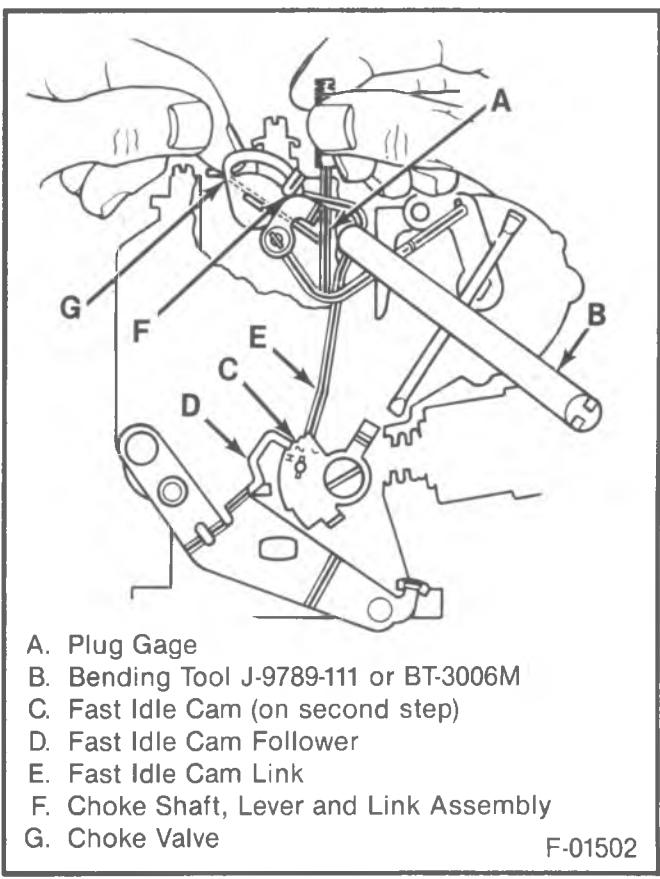

Figure 40 - Choke Link (Fast Idle Cam) Adjustment
-  **Adjust** (Figures 40, 44)
- If an adjustment is needed, bend the fast idle cam link at the point shown in Figure 40.